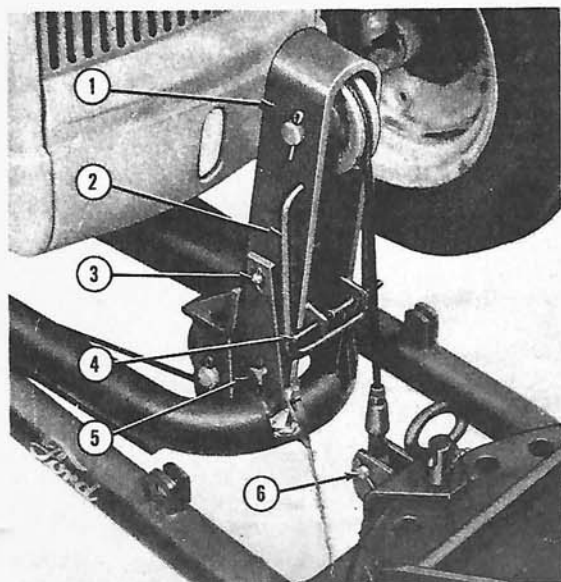

Figure 10
1. Place the front sheave strut assembly (1), Figure 10, with assembled sheaves in the bracket as shown.
2. Secure the strut assembly in position with the 1" x 43/4" clevis pin (5), Figure 10, and secure with 3/16" x 11/2" catter pins. Place a 1/2" x 415/16" drilled pin (3) through the bracket and strut assembly to lock it in place. Secure with two 1/8" x 1" catter pins.
3. Thread the cable over the top sheave and under the bottom sheave of the strut assembly (1), Figure 10, and secure the cable eye in the turntable keeper bracket with a 5/8" x 113/16" clevis pin and one 1/8" x 1" catter pin as shown at (6).
4. Install the blade transport link (2), Figure 10, in the holes provided in the strut assembly and secure it with two 1/8" x 1" catter pins. Lock it in the position shown with the link retaining pin (4) and two 5/64" x 11/2" hair pins placed inside of the brackets.